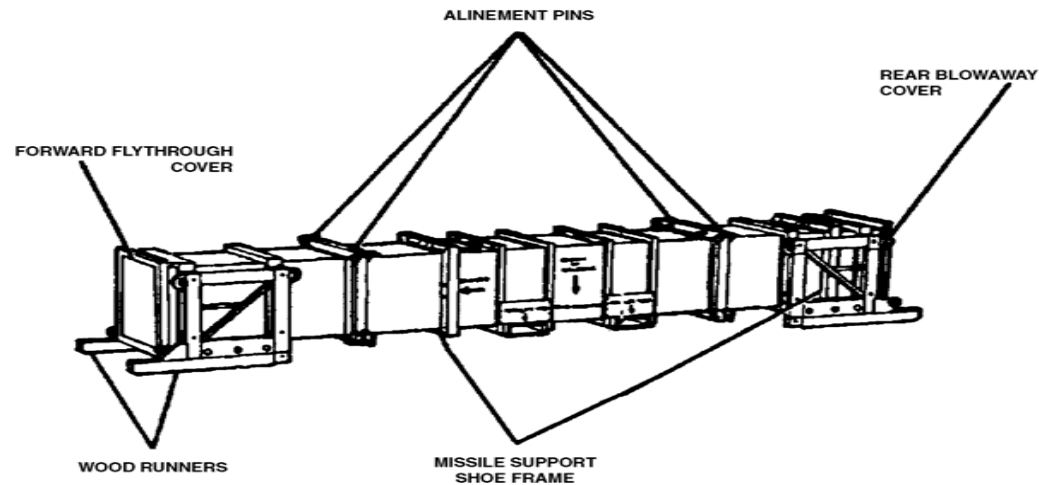

Figure G-1. GM canister.
2. GM Canister. Visually inspect the following items for damage as described (Figure G-1):